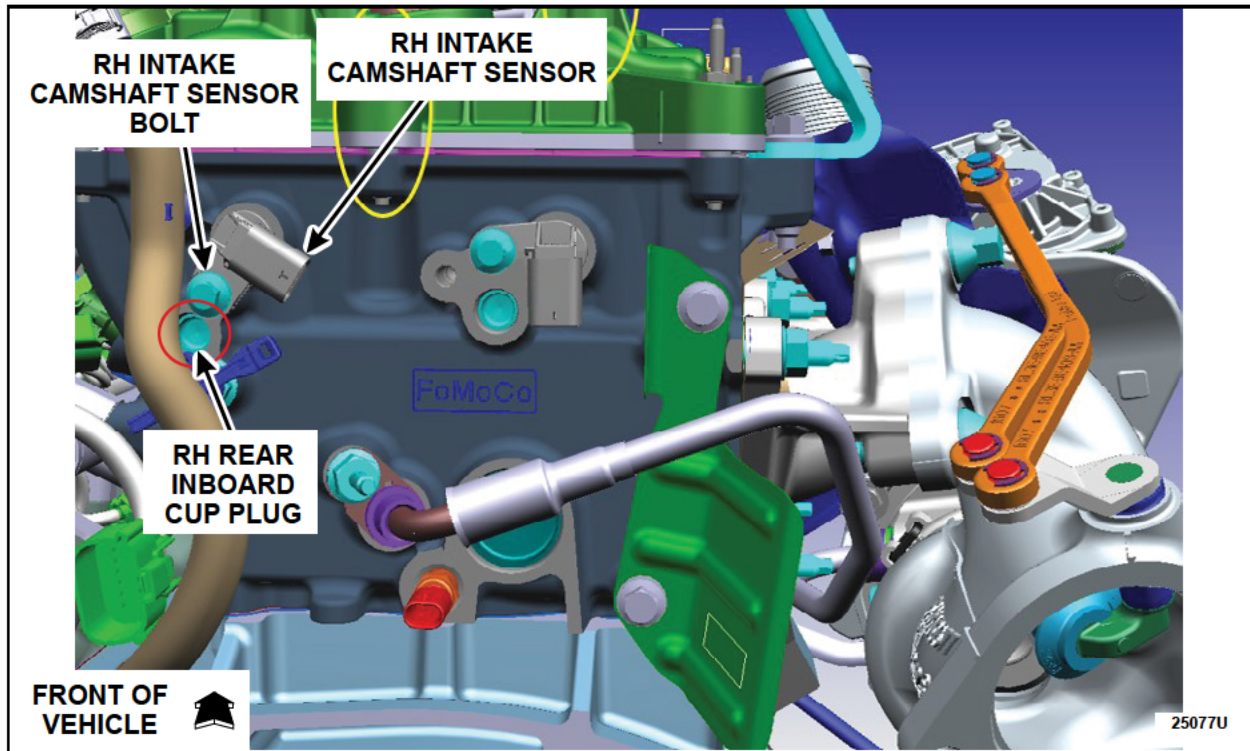

FIGURE 16
1. Through the RH wheel well, identify the RH rear inboard cup plug located below the RH intake camshaft sensor bolt. See Figure 16.